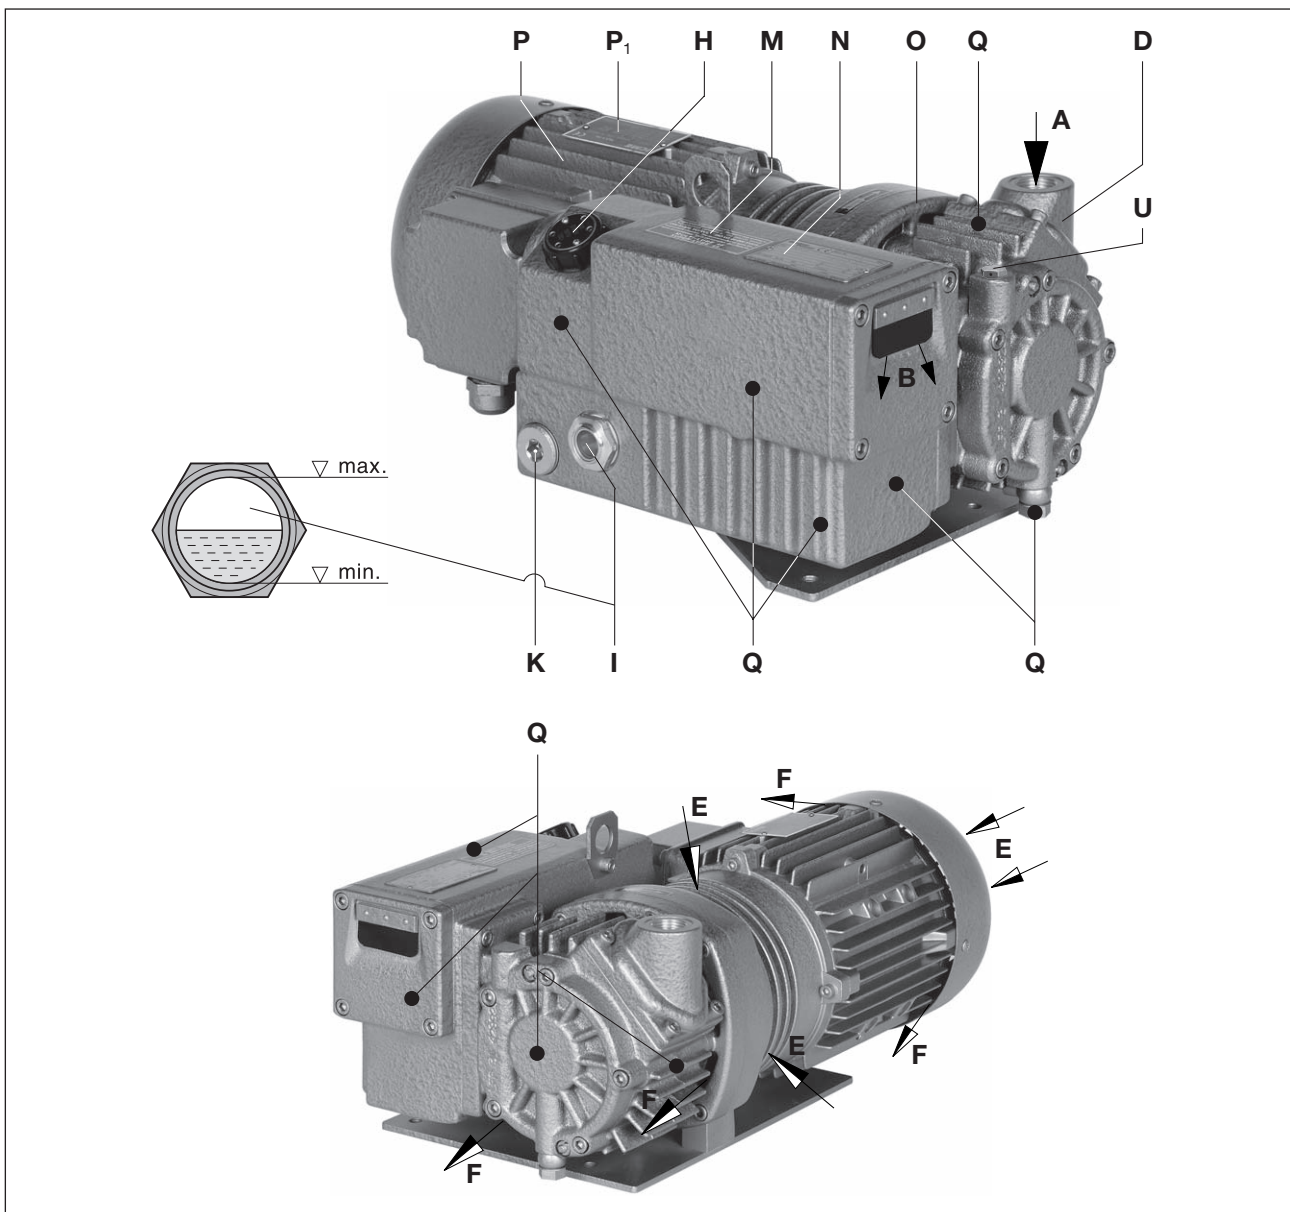

Fig. 2 Vacuum pump V-VCB
The oil filling point (Fig. 2/H), oil sight glass (Fig. 2/I) and oil outlet (Fig. 2/K) must be easily accessible. The cooling air inlets (Fig. 2/E) and the cooling air outlets (Fig. 2/F) must be at least 15 cm away from adjacent walls. Discharged cooling air must not be sucked in again. For maintenance work there must be a space of at least 30 cm around the machine.
- a) Vacuum connection (Fig. 2/A).
- b) The extracted air can blow freely through the exhaust air opening (Fig. 2/B).
- a) Fill the lubricating oil (for suitable types see the "Maintenance" section) via the oil filling point (Fig. 2/H) up to the upper edge of the sight glass (Fig. 2/I).
- a) The motor's electrical data is given on the data plate (Fig. 2/N) or on the motor data plate (Fig. 2/P1). The motors comply with DIN EN 60034 and are in protection class IP 55 and insulation class F. The appropriate connection diagram is located in the motor's terminal box (not for the plug connection version). The motor data must be compared with the data of the existing mains network (current type, voltage, network frequency, permitted current value).
- ▷ The drive shaft direction of rotation is shown by the rotation direction arrow (Fig. 2/O) on the motor flange.
- b) After correcting the direction of rotation if necessary, start the motor again and stop it again after 2 minutes in order to top missing oil up to the upper edge of the sight glass (Fig. 2/I). This topping up at the filling point (Fig. 2/H) must be repeated until all the oil pipes have been filled completely. The filling point must not be open when the pump is running.